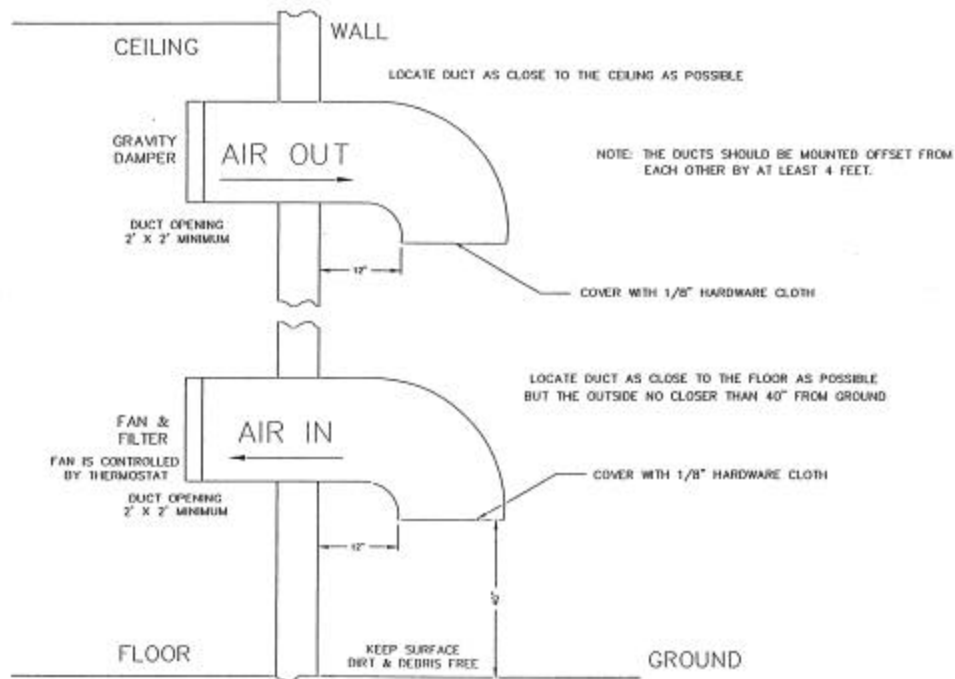

Figure 3-1. 1 kW Minimum Ventilation Configuration
| <p>not be carried in with the cooling air.</p> <p>5. The exhaust should be located as high as possible. Some ducting is usually required to insure the complete flushing of heated air with no stagnant areas.</p> <p>6. The filter area must be large enough to insure a maximum air velocity of 300 feet per minute through the filter. This is not a conservative number but a never-exceed number. In a dusty or remote location, this number should be reduced to 150 CFM.</p> <p>7. The inlet and outlet(s) must have automatic dampers that close any time the ventilation blower is off.</p> <p>8. In those cases in which translators are regularly off for a portion of each day, a temperature-differential sensor that controls a small heater must be installed. This sensor will monitor inside and outside temperatures simultaneously. If the inside temperature falls to within 5° F of the outside temperature, the heater will come on. This will prevent condensation when the ventilation blower comes on and should be used even in the summer.</p> <p>9. A controlled-air bypass system must be installed to prevent the temperature in the room from falling below 40° F during translator operation.</p> <p>10. The blower should have two speeds, which are thermostatically controlled, and be interlocked with the translator.</p> <p>11. The blower on high speed must be capable of moving the required volume of air into a half inch of water pressure at the required</p> | <p>elevation. The free air delivery method must not be used.</p> <p>12. Regular maintenance of the filters, if used, can not be overemphasized.</p> <p>13. Above 4000 feet, for external venting, the air vent on the cabinet top must be increased to an 8-inch diameter for a 1-kW translator and to a 10-inch diameter for 5-kW and 6-kW translators. An equivalent rectangular duct may be used but, in all cases, the outlet must be increased by 50% through the outlet screen.</p> <p>14. It is recommended that a site plan be submitted to Axcera for comments before installation begins.</p> <p>In calculating the blower requirements, filter size, and exhaust size, if the total load is known in watts, 2000 CFM into ½ inch of water will be required for each 5000 watts. If the load is known in BTUs, 2000 CFM into ½inch of water will be required for each 17,000 BTUs. The inlet filter must be a minimum of seven square feet, larger for dusty and remote locations, for each 5000 watts or 17,000 BTUs. The exhaust must be at least four square feet at the exhaust screen for each 5000 watts or 17,000 BTUs.</p> <p>The information presented in this section is intended to serve only as a general guide and may need to be modified for unusually severe conditions. A combination of air conditioning and ventilation should not be difficult to design (see Figure 3-1).</p> <p>System interlocking and thermostat settings should be reviewed with Axcera. As with any equipment installation, it is always good practice to consult the manufacturer when questions arise. Axcera can be contacted at (724) 873-8100.</p> |